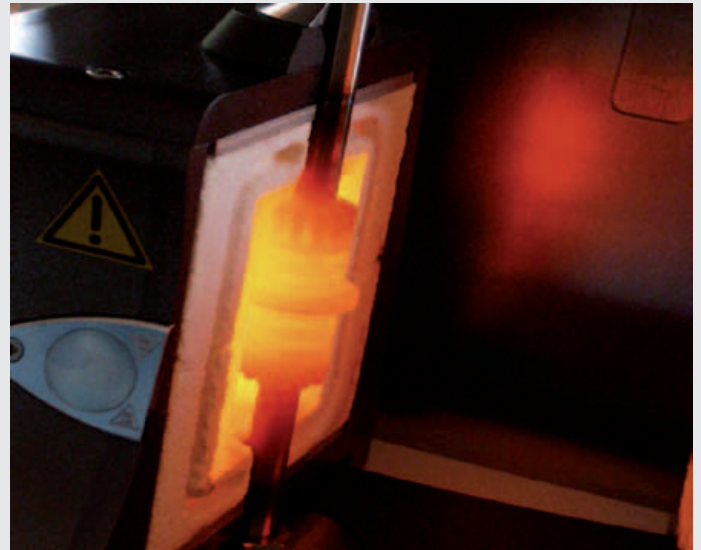

Fig. 1: Red-hot CTD 1000, opened at 1000 °C
- ▶ **Convection heating systems**, which achieve even higher temperatures, i.e. up to 1000 °C. (see Fig. 1)